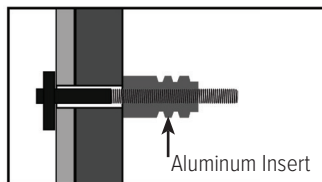

Figure 1.3
1.3 Thread the 3/4" aluminum insert onto the T-bolt as shown in Figure 1.3.